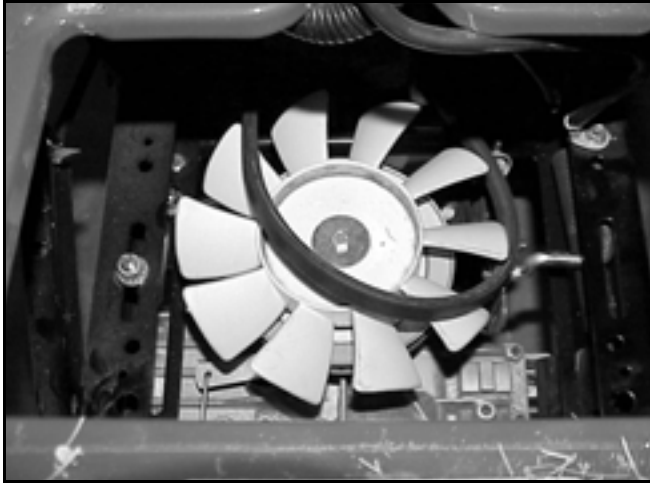

Figure 77 MVC-003A
7. Slip the traction belt down off the engine pulley and move the slack of the belt back toward the rear of the tractor. You should now be able to slip the traction belt up off the transaxle drive pulley. The fan is flexible enough to allow you to remove the belt (Figure 77).